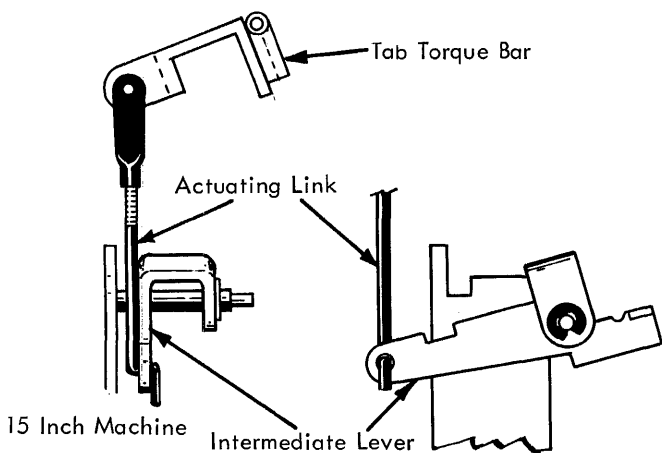

FIGURE 236. Tab Latch Adjustment
10. Tab Lever Overthrow (Fig. 236) - With the tab cam on its high point, adjust the torque bar actuating link for .005" - .10" overthrow between the tab latch and tab lever.
The purpose of the torque bar support is the same as the retaining plate on the late style (Fig. 236).